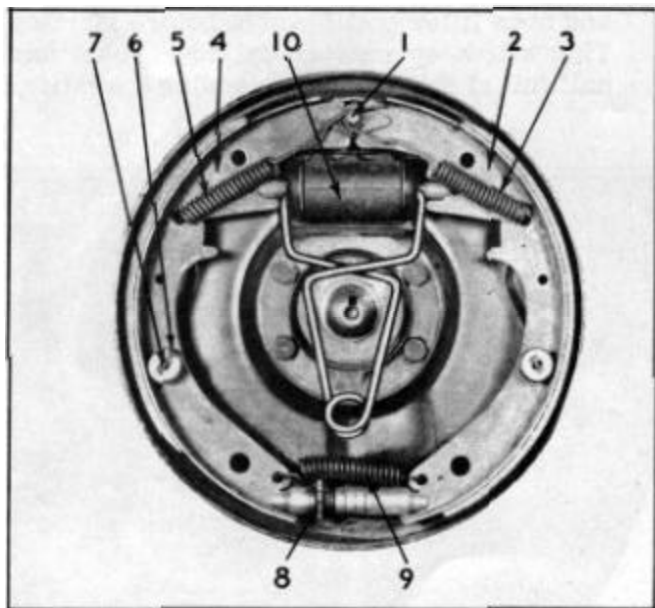

FIGURE 7
1. Install Wheel Cylinder Clamp KMO-145 on wheel cylinders as shown in Figure 7 to prevent the piston seals being forced out of position.
2. Remove the brake shoe to anchor pin springs (3) and (5).
3. Press in the turn hold down spring cups (6) and remove cups, springs and pins on both shoes.
5. Remove adjusting screw (8).
6. Disconnect adjusting screw spring (9).